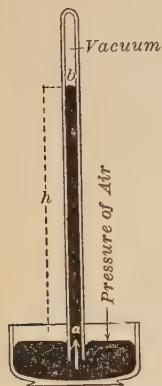

FIG. 88. — Mercury column supported by air.
94. How to calculate the pressure of the atmosphere. From the law that pressure in a heavy liquid is everywhere the same at the same depth, we know that the pressure on the mercury in the dish (Fig. 88) is the same at *a* as outside.